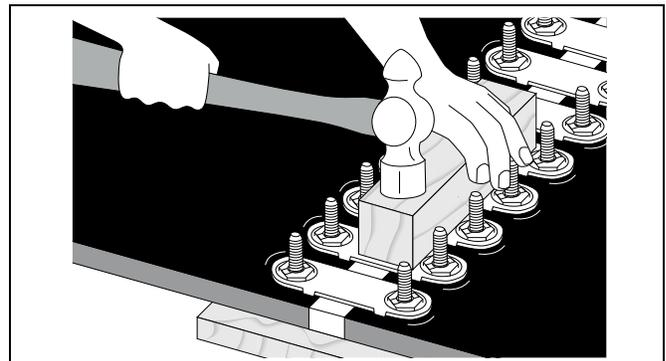

Figure 4N
- Hammer plates in belt with metal or hard wood block in between bolts. Then retighten nuts. (See Figure 4N.)